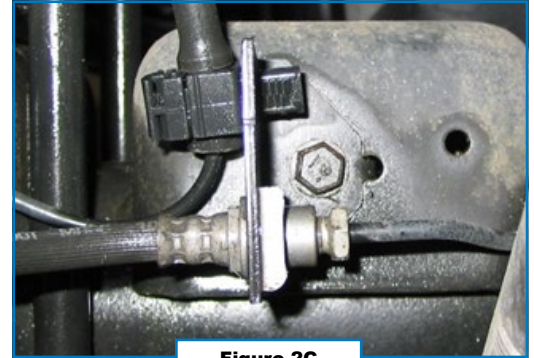

Figure 2C
- 9** Remove the M8 hex cap screws (**Figure 2C**) retaining the brake line to the jounce bumper stops. Discard the screws.